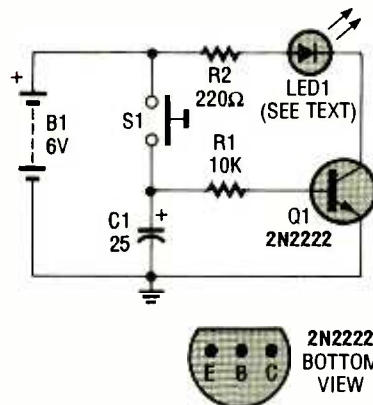

Fig. 1. This circuit will keep the LED illuminated for about ten seconds.
**The Circuit.** The schematic for the *DoorLite* is shown in Fig. 1. As you can